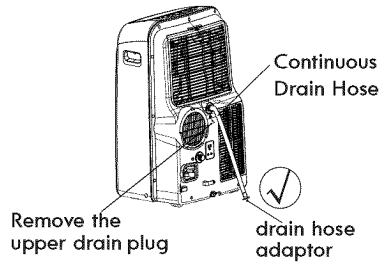

Fig.19a
1. For dehumidifying mode, pull the drain plug from the upper drain hole fitting. Push the open end of the supplied drain hose securely over the fitting. Place the adaptor end of the hose directly over a floor drain so that the water will flow into the drain. See Fig. 19a.